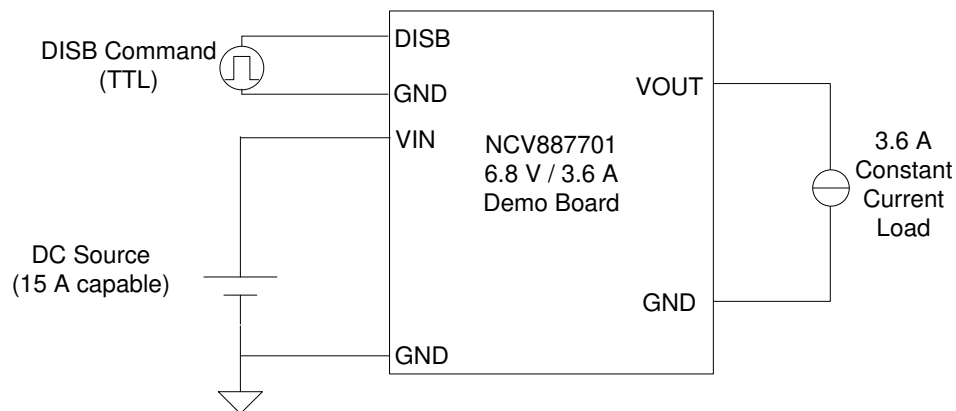

Figure 1. Demo Board Connections
1. Connect a DC source voltage (15 A capable) set to a voltage of 12-13 V as shown in Fig. 1.
2. Connect the DISB TTL control signal as shown in Fig. 1. The initial DISB state should be set to logic-'0'.